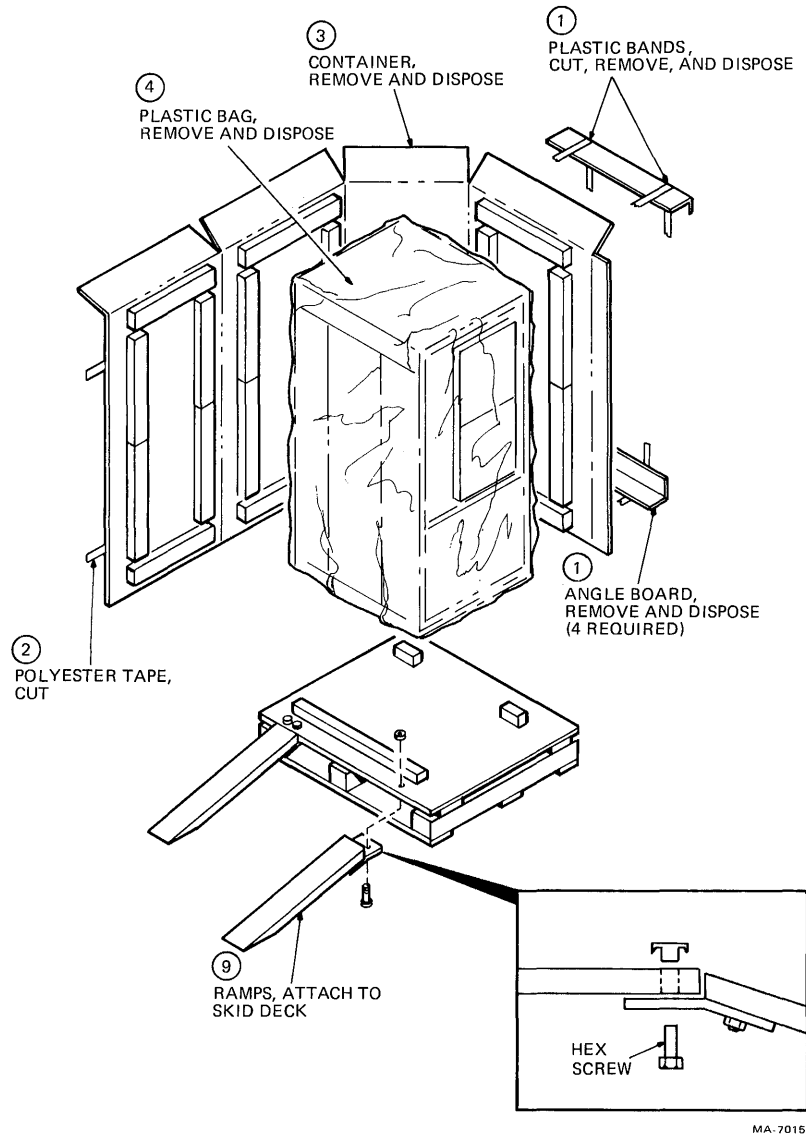

Figure 3-2 Unpacking the TU78
To unpack the TU78 from its shipping container, and remove the shipping skid, perform the following procedure. (Refer to Figure 3-2).
9. Attach the two wooden ramps to the skid deck. Four tee nuts have been driven into the top of the skid deck on the left side for this purpose. (Refer to the exploded view of Figure 3-2 showing mounting details). Position the aluminum bracket of one mounting ramp underneath the skid deck so that the holes in the bracket are lined up with the tee nuts. Fasten the bracket to the skid deck with two 1/4-20 × 3/4 hex bolts. (The bolts are shipped in the accessory package.) Attach the second ramp to the skid deck in the same manner.